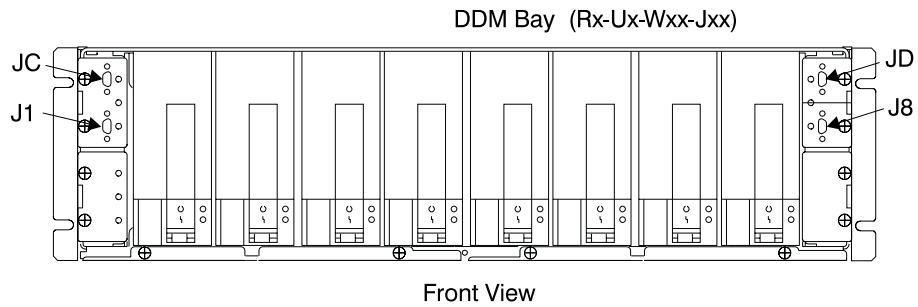
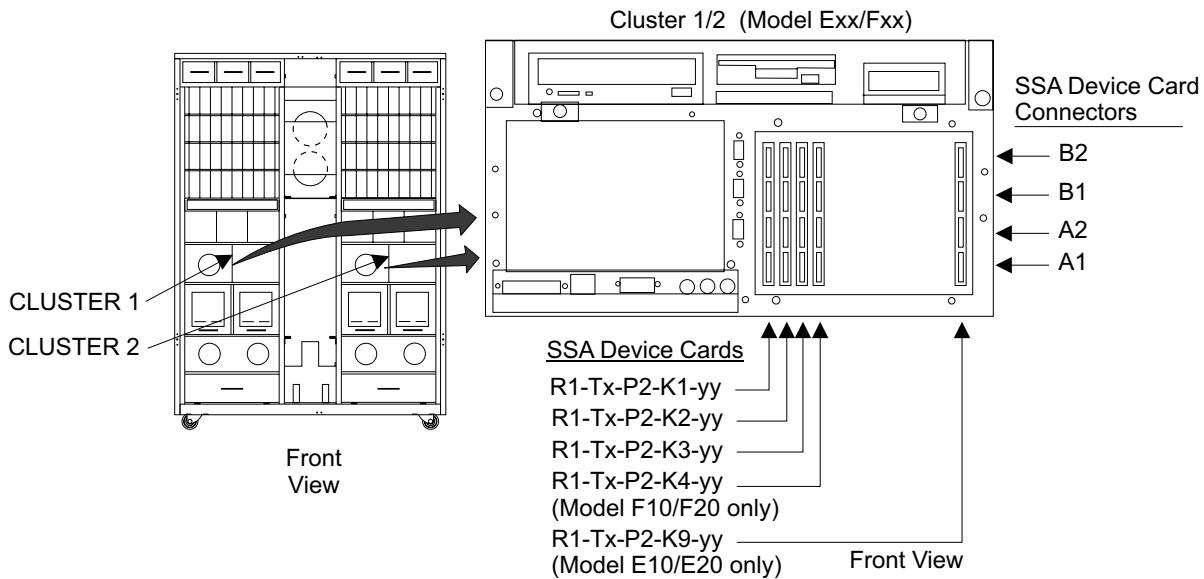

Figure 92. DDM bay SSA Connector Locations (S007693I)
Figure 93. Cluster SSA Device Card SSA Connector Locations (S008022m)
1. Locate the SSA cable displayed on the service terminal as a possible FRU. For this isolation procedure, the SSA cable will be connected between a drawer and an SSA device card. The service terminal FRU Location will identify the drawer and its SSA connector, and the SSA device card and its SSA connector. To locate a drawer, see "Locating a DDM Bay or SSA DASD Model 020 or 040 Drawer in a 2105 Rack" in chapter 7 of the *Enterprise Storage Server Service Guide, Volume 3*. To locate SSA cable connectors on a drawer, see Figure 92 on page 182.
To locate an SSA device card cable connector, see Figure 92 on page 182 and Figure 93 on page 182.